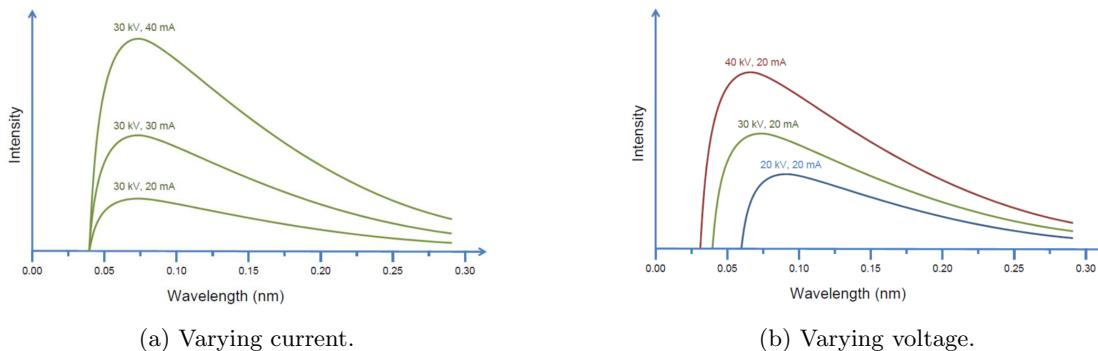

Figure 1.9: X-ray intensity vs. wavelength at different voltages and currents.
- λ_{\min} is the x -intercept in Figure 1.9.